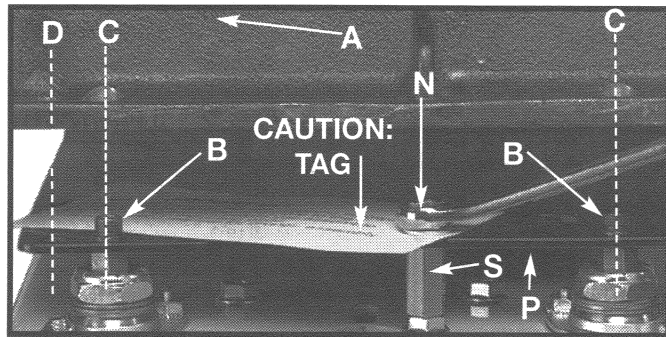

Fig. 5
1. **CAUTION:** Remove the front and rear shipping bolts that were installed to stabilize and ensure the support plate remained level during transit. These bolts, one shown at (N) Fig. 5, should be removed before attaching table. Use a 1/2" wrench to hold hex stop post (S) then with another 1/2" wrench loosen and remove hex bolts (N)
NOTE: DO NOT remove the hex stop post (S) Fig. 5.
2. The abrasive belt and the motor for the feed table are shipped assembled. Place the feed table (A) Fig. 5 on the support plate (P), inserting the motor side first. Align holes in table (two of which are shown at C) with top of leveling screws (B). **IMPORTANT: Make sure the table is not sitting on any of the lockwashers attached to leveling screws (B).**